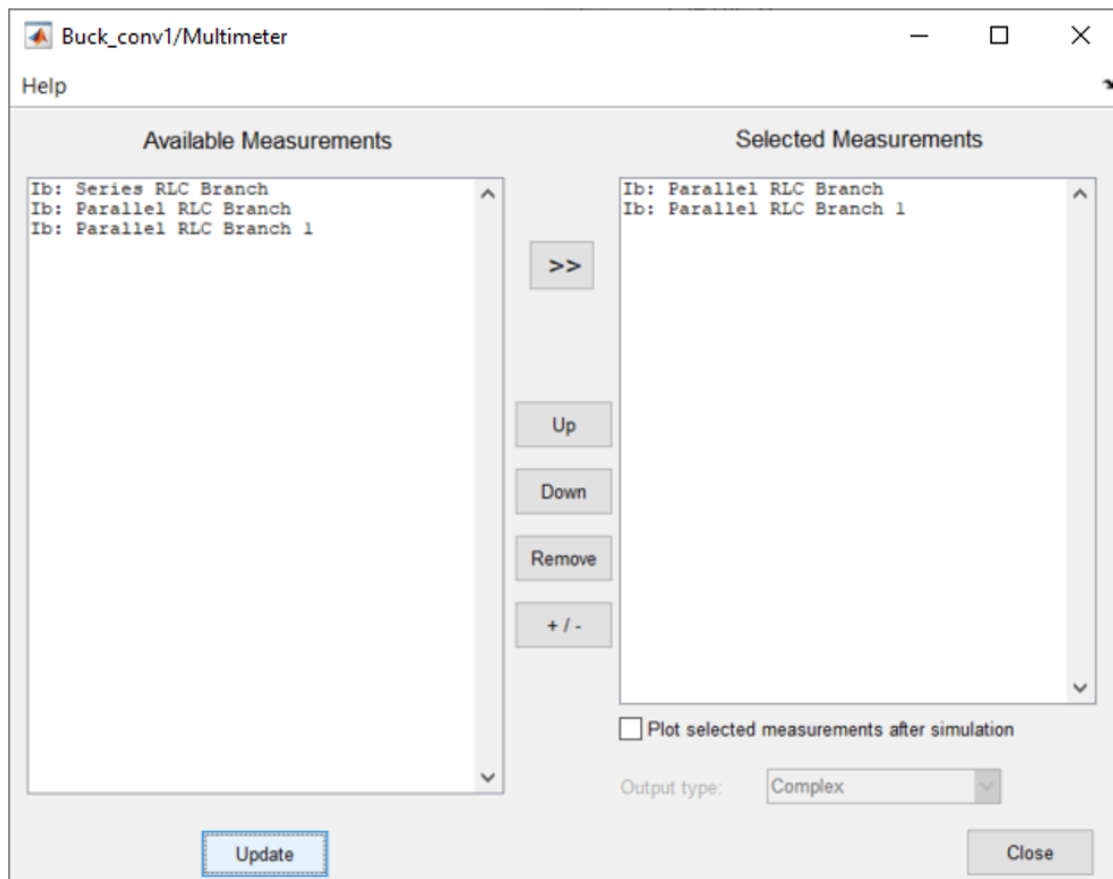

Figure 1.7: Multimeter block parameters
6. Add a Multimeter block (Simscape/Power Systems/Specialized Technology/Fundamental Blocks/Measurements) in order to pick up measurements from the two parallel RLC branches. On the left side available measurements are listed. Select measurements by pressing the arrow button as shown in Figure 1.7.